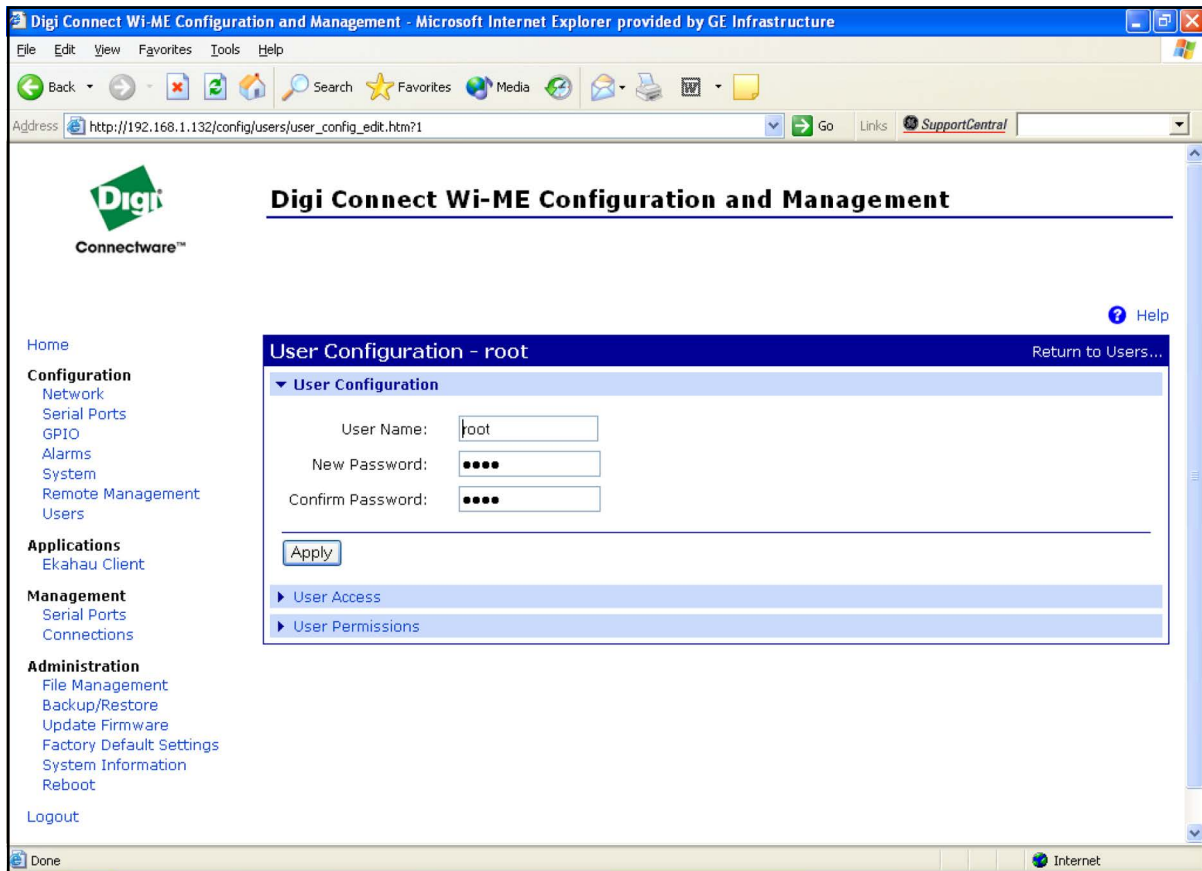

Figure 45: Changing the User Name and/or Password
5. Click on **New...** Figure 45 on page 73 appears.